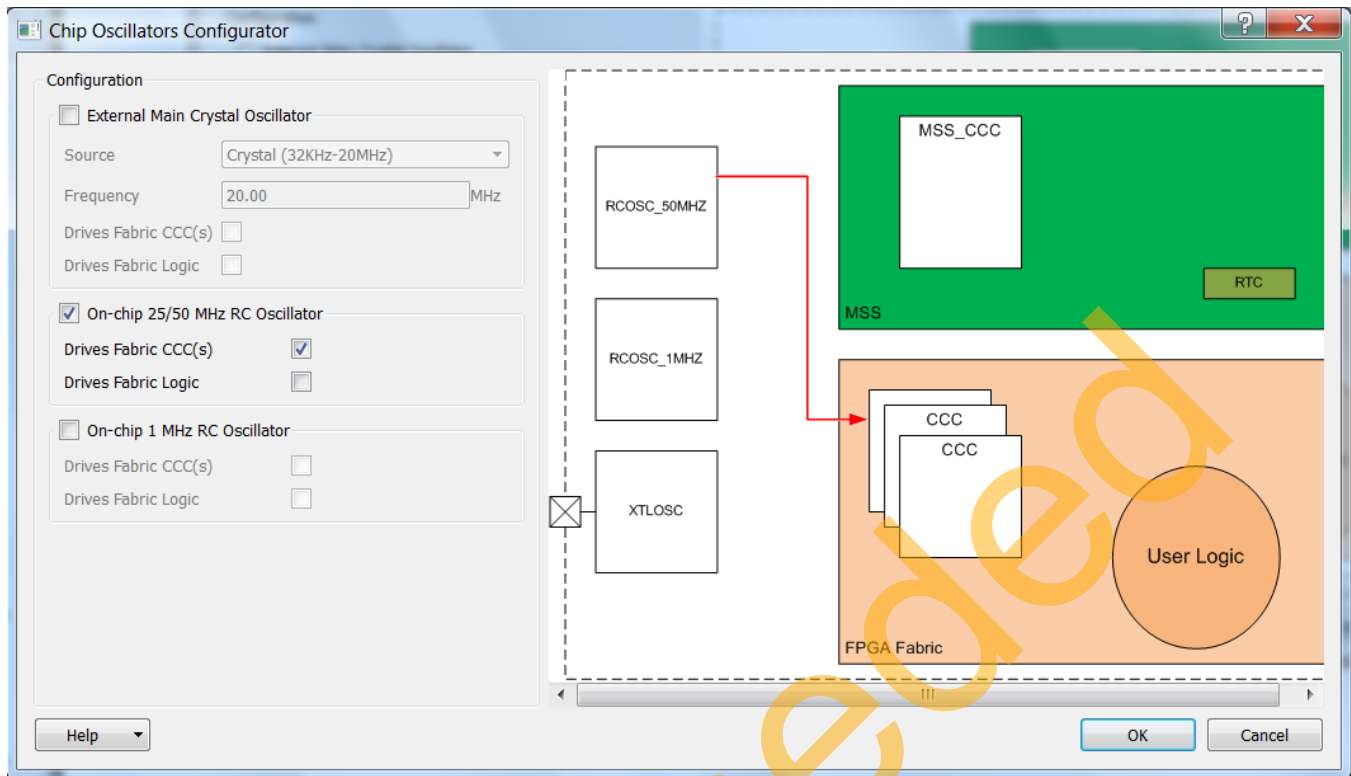

Figure 21. Oscillator Configuration
5. Drag the **Chip Oscillators** IP from the Clock & Management sub-section of the IP Catalog into the SmartDesign. Double-click the **OSC_0** instance to open up its configuration window. Make the following selections, as shown in Figure 21.